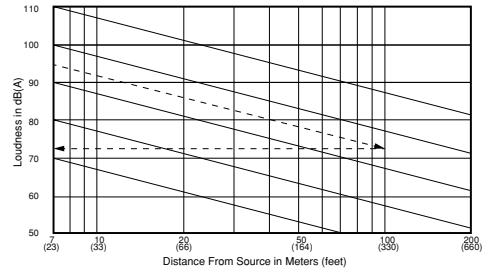

Figure 11.2. Decreases In Loudness As Distance Increases (Free Field)
You can use Figure 11-2 to find out the noise level of a Gen.Set at a distance. For example as shown at the Figure 11-2, if the Gen.Set noise level is 95dB(A) at 7